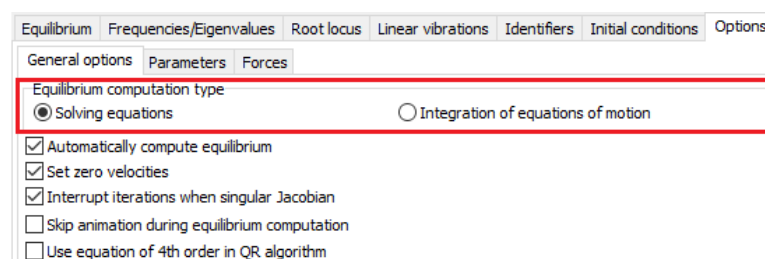

Figure 3.8. Choosing a method for defining the equilibrium position
2. Go to **Options | General options** tab. In group **Equilibrium computation type** set **Solving equations** as a method of defining the equilibrium position, Figure 3.8.